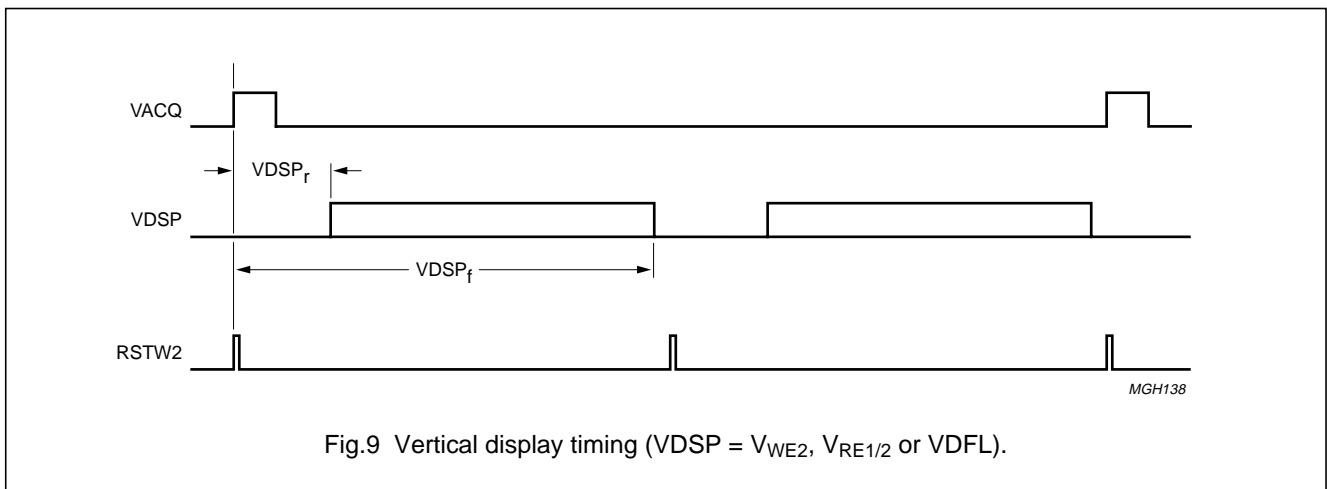

Fig.9 Vertical display timing (VDSP = VWE2, VRE1/2 or VDFL).
**Table 7** Vertical programming range for display signals (VDSP = WE2, RE1 or RE2; see also Fig.9).